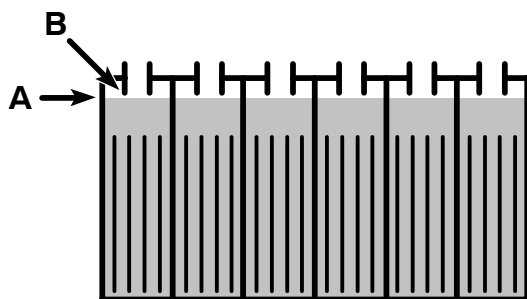

FIG. 50
- Check the electrolyte level (A) in each battery cell **after charging batteries**. The level should be approximately 1 cm from the bottom of the fill-port (B). Add distilled water if needed (Figure 50). **DO NOT OVERFILL.**